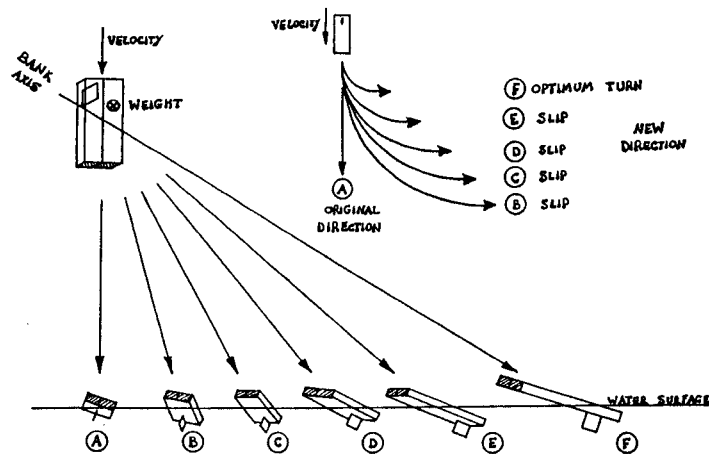

FIG. 2-7 SLIP IN A TURN
To help explain these concepts further, Figure 2-7 shows the top view of a theoretical surfboard in the process of beginning a turn. The surfer rotates the surfboard about the bank-axis shown. Each of the successive views (A) through (F) are looking at the surfboard along the water surface from possible directions the surfboard could begin to take as it starts to turn.